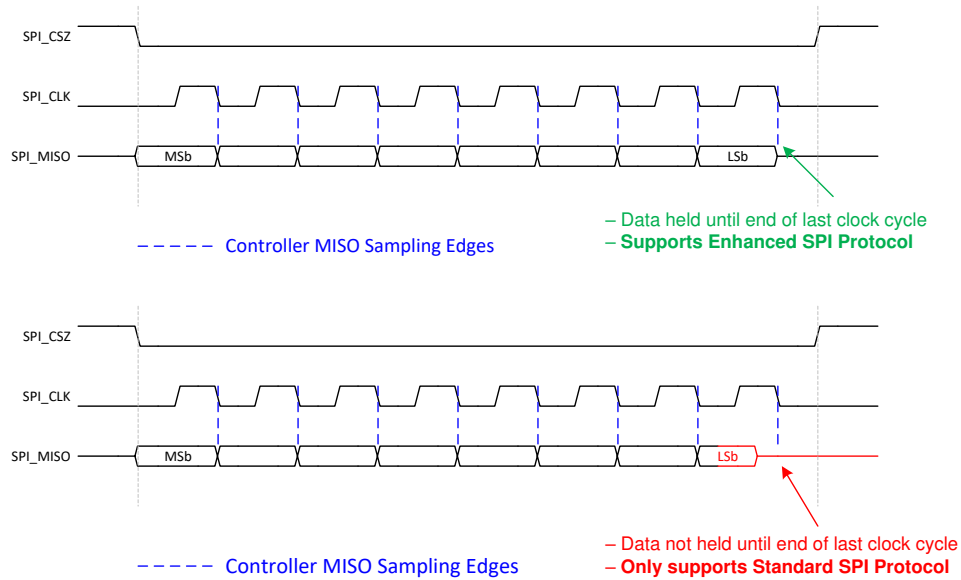

Figure 6-17. Requirement for Enhanced SPI Protocol
- (2) In most SPI applications, one clock edge is used by both master and slave devices for transmitting data while the other edge is used by both for sampling received data. This is referred to as *Standard SPI Protocol*. To maximize the SPI_CLK frequency potential, SPI masters can alternatively be designed to sample the data in (MISO) bit on the same clock edge used to transmit the next data out (MOSI) bit. This is referred to as *Enhanced SPI Protocol*. The DLPC7540 SPI master implementation supports both protocols (part of SPI interface configuration), however, to be able to use the "Enhanced SPI Protocol", the slave device must meet the requirement shown in Figure 6-17.